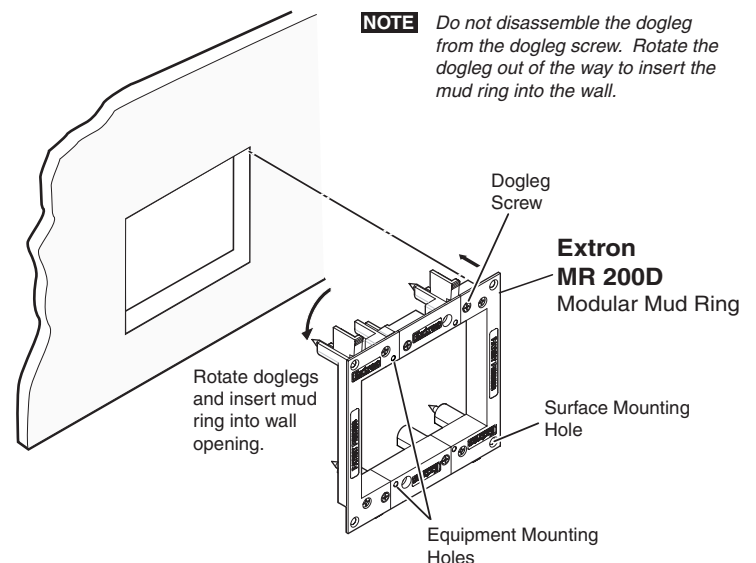

Figure 2 — Installing an MR mud ring
4. Test the fit of the mud ring. The doglegs should fit easily into the hole and the flat portion should rest flush against the wall. See the note in figure 2, at right.
Standard mud rings only: If you are going to screw the mud ring to the surface, rather than using the detachable doglegs, mark the four surface mounting screw holes at the corners of the mud ring. See figure 2, at right.